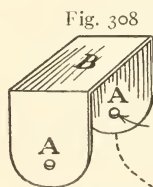

Fig. 308
**The Two-Wheel Cart** (Fig. 306) is made of a small box cover, and one of the spools on which crochet-cotton comes. Prepare a bent piece of cardboard like that shown in Fig. 308, with ends *A* turned down at the proper points so there will be only room enough between them for the spool to turn freely. Punch a hole through each turned down end
spool wheels of the cart are mounted (Figs. 308 and 309); but make the peg axle to fit tight in the spool hole. Prepare a boy and girl rider similar to those made for the merry-go-round (Fig. 313).